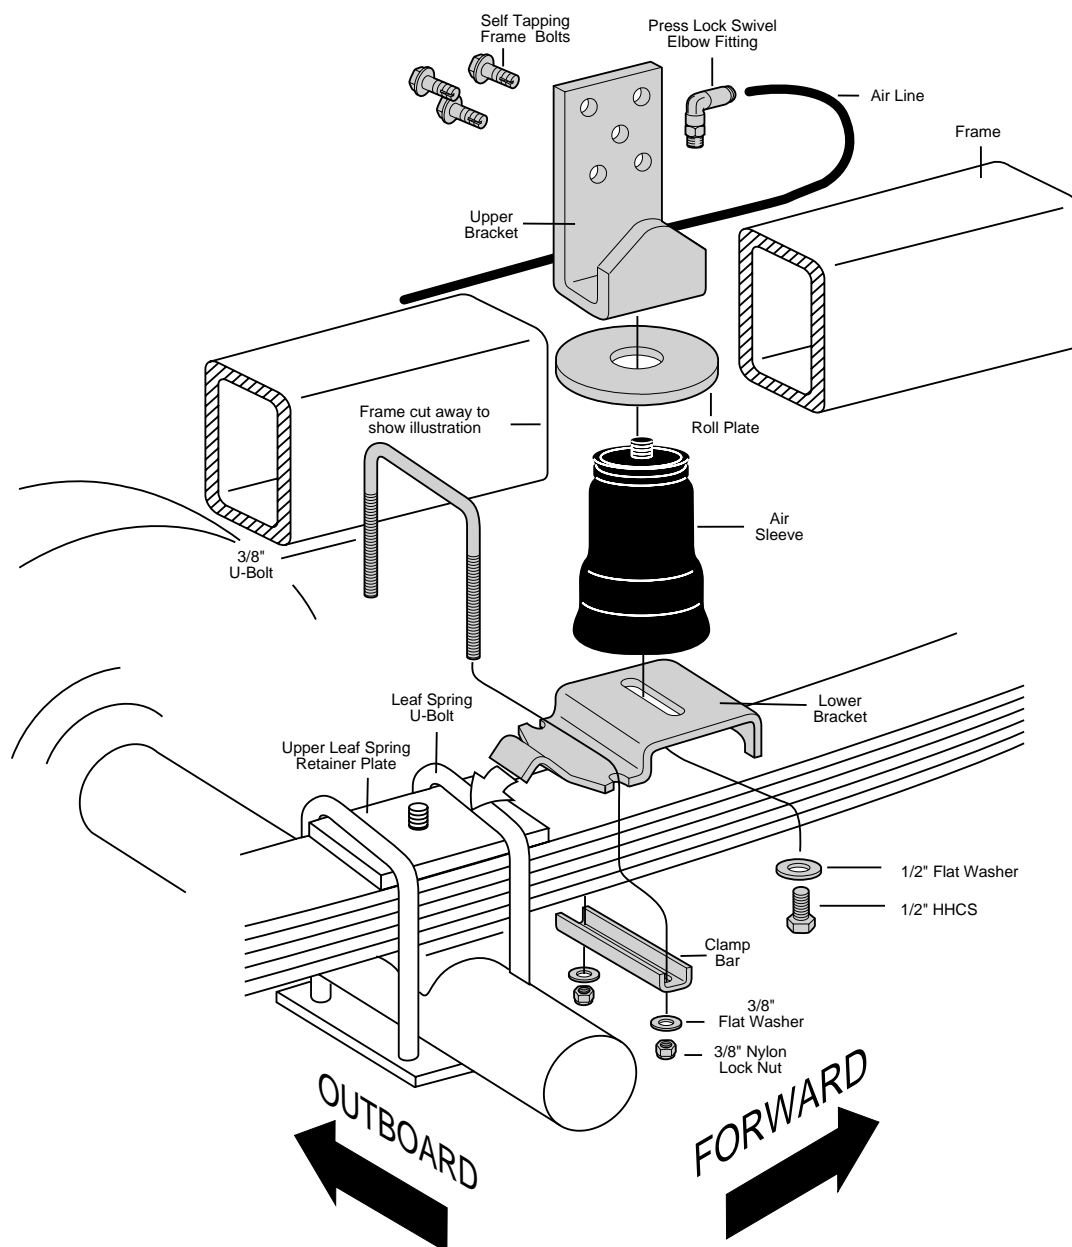
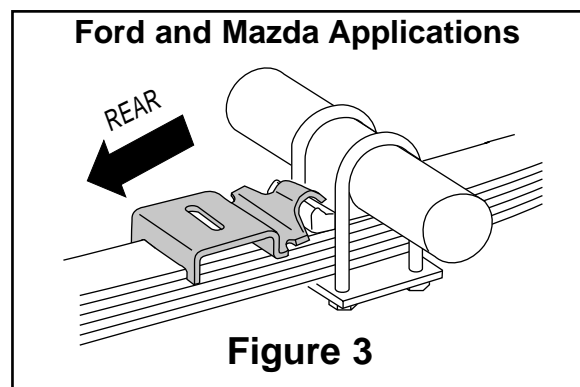

Figure 1
Figure 3
Please read these instructions completely before proceeding the installation. Figure 1 represents a **TYPICAL 4WD NISSAN** installation. **See page 2 for Toyota and Ford/Mazda** instructions. Your vehicle may look slightly different due to make, model or year.
2. LOOSELY attach the lower brackets to the bottom of the sleeve using the provided 1/2" flat washer, and the 1/2" HHCS bolt as shown in Figure 1.
3. Raise axle or lower frame until the leaf spring is at normal ride height (no load). Now install the lower bracket as shown in (Figure 1 & 3). The bracket will locate over the U-bolt for **Nissan and Toyota (Figure 1)** or over the edge of the upper spring retainer plate for **Ford and Mazda (Figure 3)**. Tighten nuts to 20 ft-lbs.
at least three of the five pre-drilled mounting holes in the upper bracket. Any combination of three is permissible. Using the bracket as a template, center punch and drill three 5/16" holes. **The holes must be no larger than 5/16".** Attach the upper bracket using the Self-Tapping Frame Bolts and tighten securely to 15 ft. lbs. (Figure 1). **DO NOT OVER-TIGHTEN.**
7. Route air line along frame desired inflation valve location to the air fitting (Figure 1 & 7). Attach air line to chassis with the provided plastic straps.